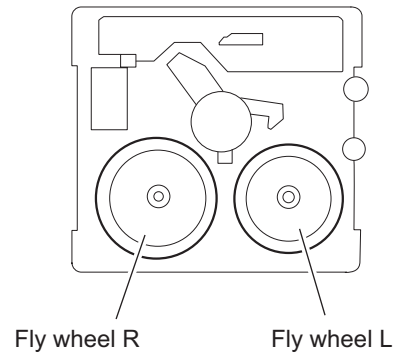

Fig.8
3.3.4 Removing the flywheel (See Fig.8, 9)